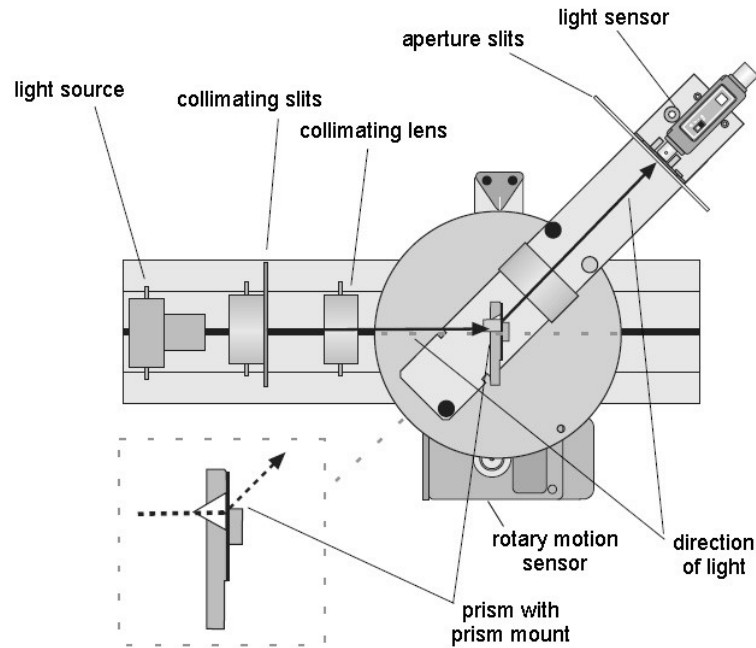
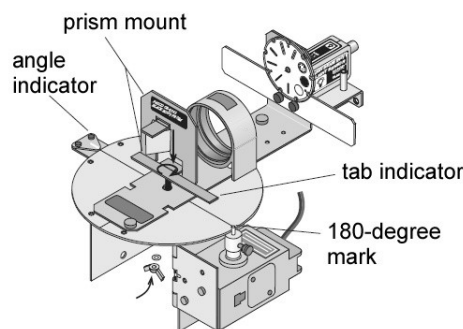

Figure 2 Sketch of the prism spectrophotometer
Figure 4 Correct position of prism mount on spectrophotometer table
Prism Spectrophotometer: The spectrophotometer is used to measure the spectral content (spectrum) of an incident light source. As shown in Fig. 2, the collimating slits and collimating lens produce a narrow parallel light beam. The prism disperses the beam of light into a spectrum with different wavelengths (colors) at different angles. The narrow slit on the aperture disk (part of the aperture bracket) allows light with a narrow range of wavelengths to enter the light sensor. The light sensor measures the intensity of the light while the Rotary Motion Sensor measures the angle to which the light is diffracted by the prism. The prism spectrophotometer has two advantages over a grating spectrophotometer:
2. The prism should be oriented with the apex facing the light source (as shown in Fig. 2) and the prism mount bracket should be aligned with the 0 and 180 degree line on the degree plate. Check to see that the angle indicator on the degree plate is set to zero and the tab indicator on the prism mount is aligned parallel to the 180-degree line on the plane (as shown in Fig. 4). If it is not the case, please ask the technician-in-charge for help.